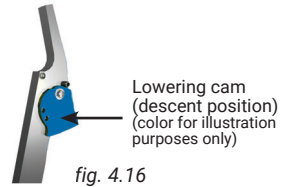

fig. 4.16
- 2- Unlock the lowering cam on both the cylinder hook and the secondary hook (fig. 4.16).